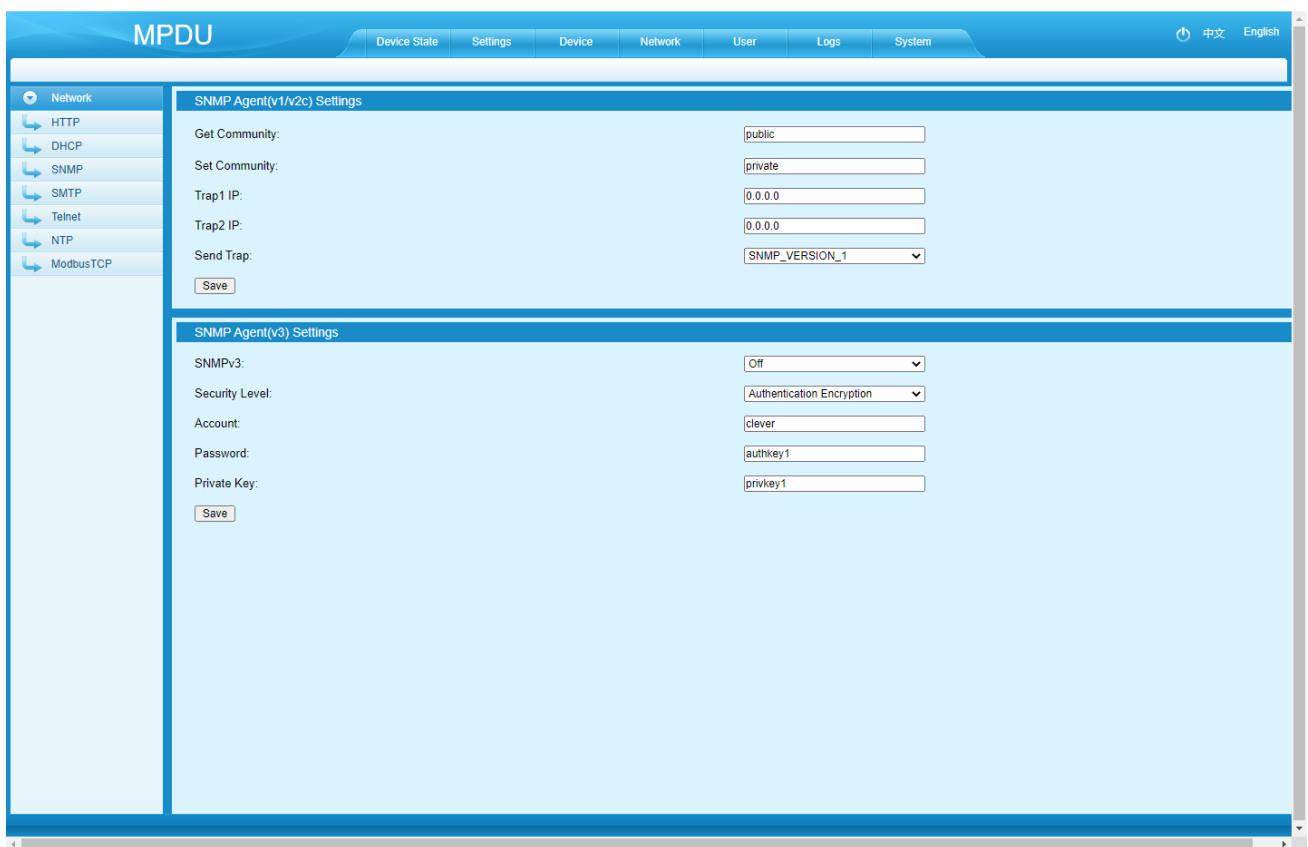

Figure 1-12
- 5) SMTP settings: Click SMTP from the network navigation tab to enter the SMTP setting as figure 1-12